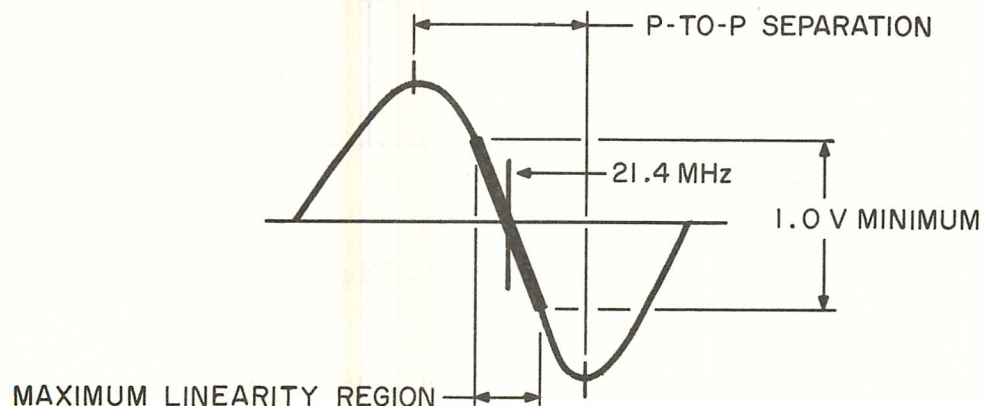

Figure 5-7. IF-210 and IF-215 FM Discriminator Response.
- (4) Adjust L8 for maximum amplitude and L9 and L10 for maximum linearity of response. When L10 is adjusted correctly the 21.4 MHz crossover point will occur at the center of the response. Refer to Table 5-12 and Figure 5-7.